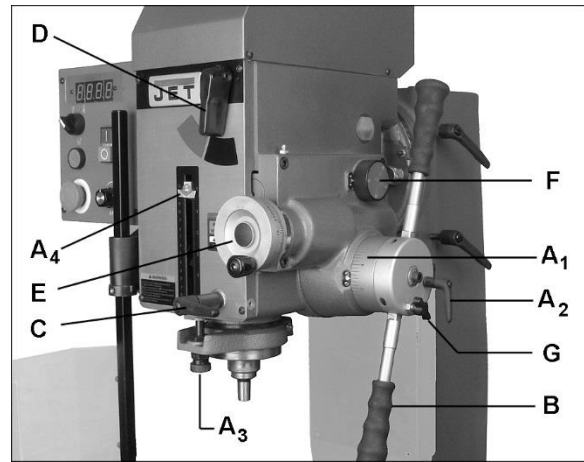

Figure 8-1: operating controls (tapping model 45VSPFT shown)
3. Place speed lever (see D, Figure 8-1) to low-speed range (black).
Refer to Figures 8-1 and 8-2.
See Figures 8-1 and 8-2.
See Figures 8-1 and 8-2:
4. Tighten spindle lock (C, Figure 8-1) at desired height.
5. Select speed range (D).
6. Turn on spindle and adjust speed dial (O) to desired RPM.